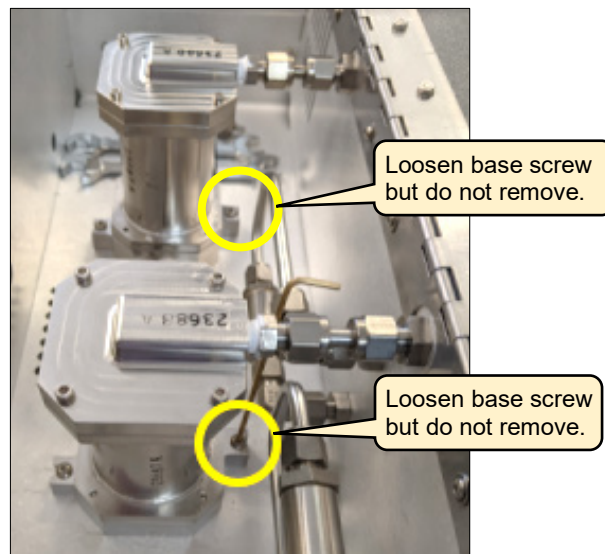

Figure 44: Loosening Scrubber Housing Inner Base Screw
2. Using the available 2.5 mm hex wrench, loosen the inner base screw of the scrubber housing but do not remove (Figure 44).